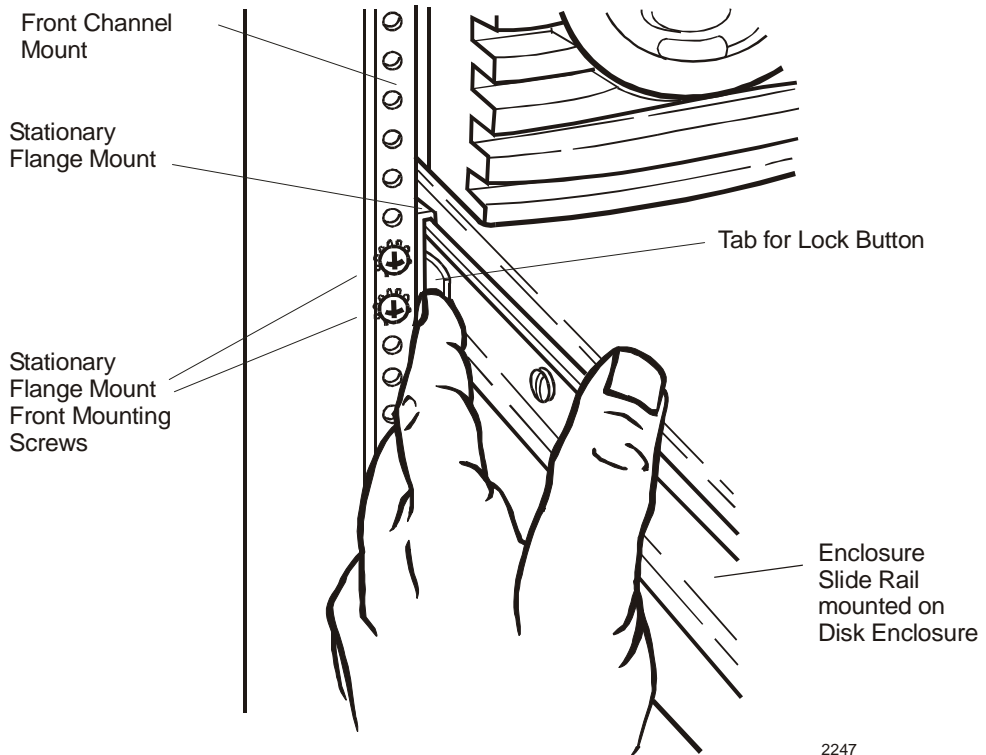

Figure 13. Adjusting Lock Buttons on Slide
- b. Loosen both Front and Rear Stationary Flange Mount mounting screws (refer to Figure 13) on both the right and left sides of the rack for that enclosure. Adjust the Stationary Flange Mounts, then secure mounting screws.
- Using caution, push in the tabs for the lock buttons located on each slide rail that is mounted on the disk enclosure (Figure 13), and slide the enclosure in until the lock buttons fit securely into the mating holes in the flange mount. You should hear a click when the lock buttons slide into the mating holes.